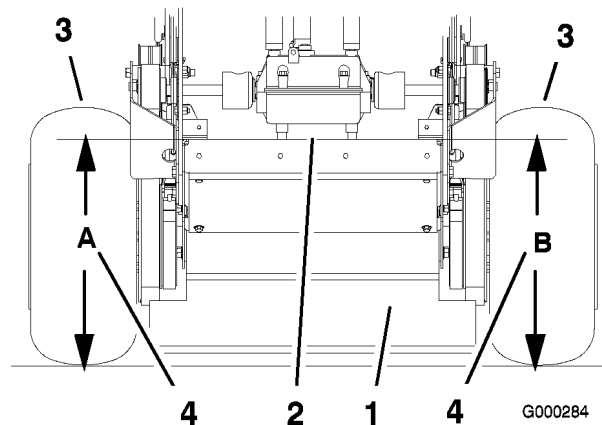

Figure 57
4. Measure engine deck height at location **A** (Figure 57).
5. Measure engine deck height at location **B** (Figure 57).